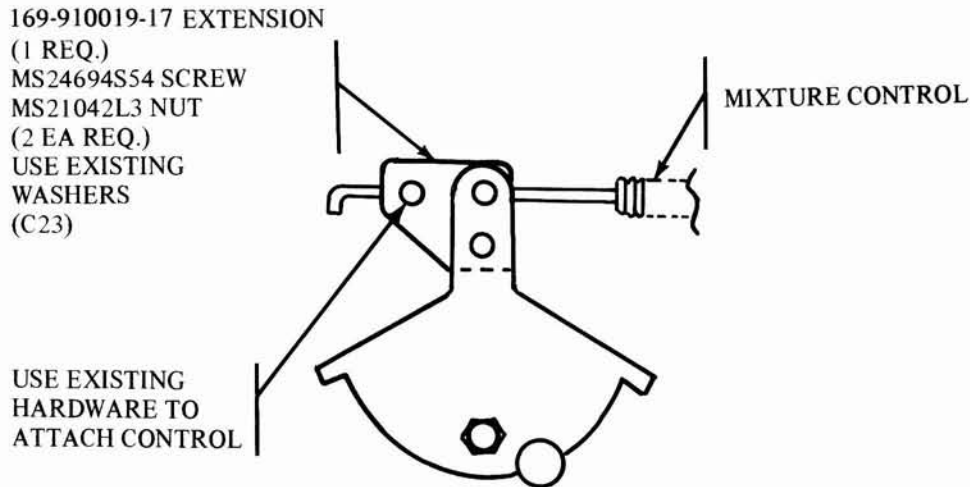

Figure 4. Fuel Mixture Control Extension Illustration
16. Install the new P/N 169-910019-17 extension on the carburetor idle cutoff cam using the new MS24694S54 screws, MS21042L3 nuts, and existing washers as shown in Figure 4.
9. Install the new P/N 169-910019-17 extension on the carburetor idle cut-off cam using the new MS24694S54 screws, MS21042L3 nuts and existing washers as shown in Figure 4.